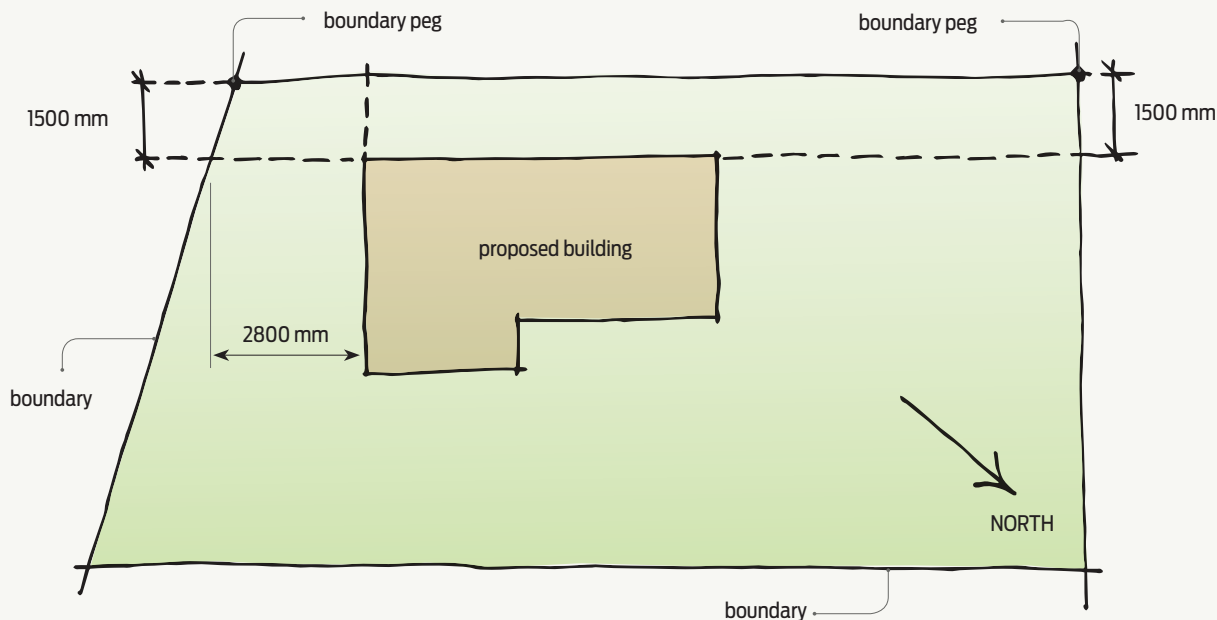

Figure 1 Clear set-out with single offset dimensions.
- give single offsets from the building to the most critical points on the boundaries (see Figure 1) – they must not dimension set-outs to opposing boundaries